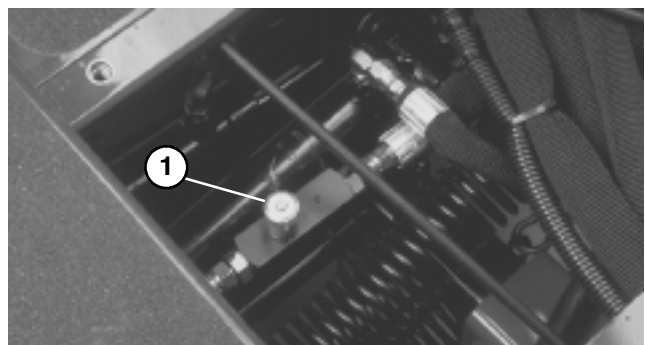

Figure 62
(Fig. 62 – 64)
1. Locate valve behind access panel above operator's platform (Fig. 62).